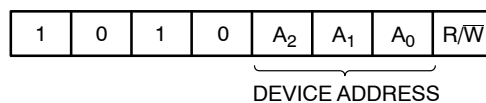

Figure 3. Slave Address Bits
The Master addresses a Slave by creating a START condition and then broadcasting an 8-bit Slave address. For the CAT24C32B, the first four bits of the Slave address are set to 1010 (Ah); the next three bits, A₂, A₁ and A₀, must match the logic state of the similarly named input pins. The R/W bit tells the Slave whether the Master intends to read (1) or write (0) data (Figure 3).